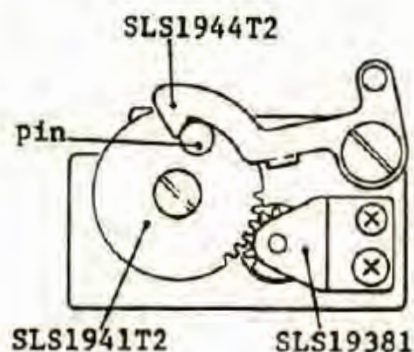

Fig. 28
- 3) Temporarily attach SLS1944T2 Brake lever to its position and then install the gear as shown in Fig. 28. Tighten its screw SLS21721.
- 4) The gear should rotate smoothly. If not, adjust it by SLS19381 Bracket as shown in Fig. 28.